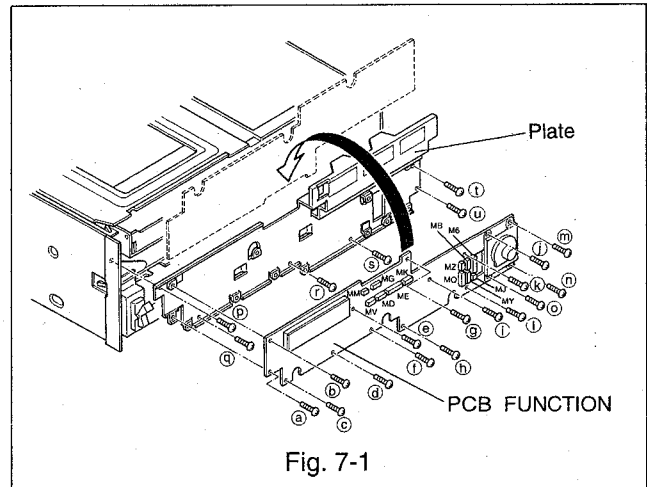

Fig. 7-1
(Refer to Fig. 7-1)
- a. Remove fifteen screws (a~o) of the PCB FUNCTION. (Refer to Fig. 7-1)